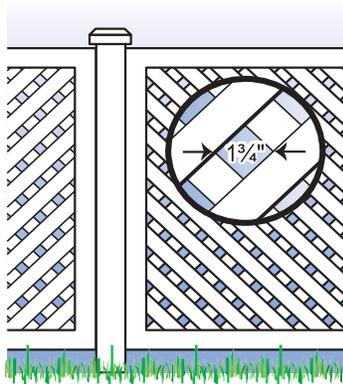

Figure 7
The maximum opening in the lattice shall not exceed $1\frac{3}{4}$ inches. Per 2012 ISPSC #305.2.8 (figure 7)
- Where the barrier is composed of diagonal members, such as a lattice fence, the maximum opening formed by the diagonal members shall be no more than 1¼ inches (figure 7).